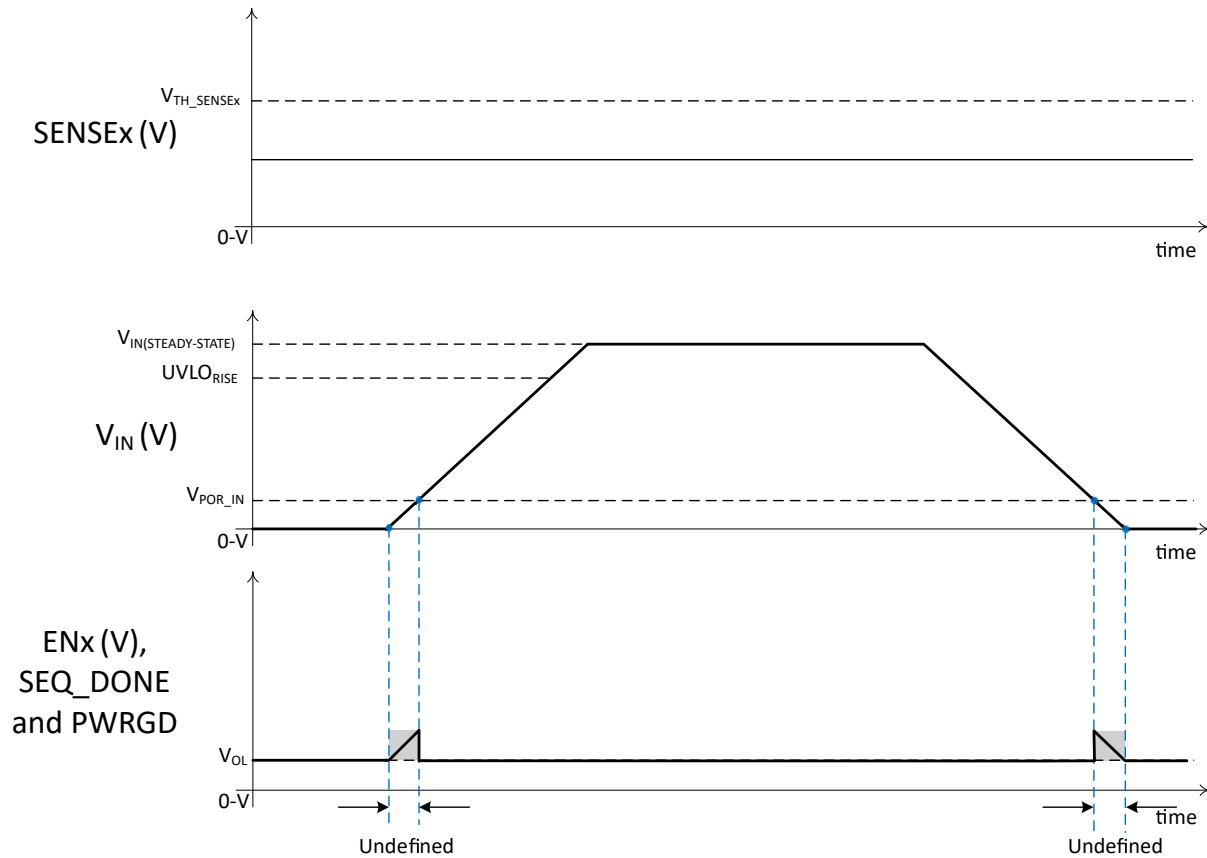

图 8-1. Outputs in a Valid Low State After $V_{IN} > V_{IN-MIN}$
图 8-1 shows the EN_x outputs relationship to a rising input voltage (V_{IN}). As can be observed, the EN_x are undefined when V_{IN} is lower than $V_{\text{POR_IN}}$ (typically 1.41V). During this time the outputs can be any value from 0V to V_{IN} . In this case, the input voltages to all undervoltage (UV) input comparators (SENSE_x) are below the $V_{\text{TH_SENSE}_x}$ (599mV). For this reason (in conjunction with waiting for a rising edge on UP), the EN_x, SEQ_DONE and PWRGD stays low after V_{IN} rises above $UVLO_{\text{RISE}}$ (typically 2.79V).